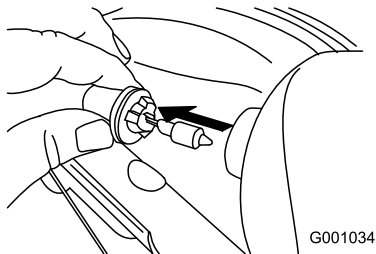

Figure 64
3. Remove the bulb straight out from the back of the headlight (Figure 64).